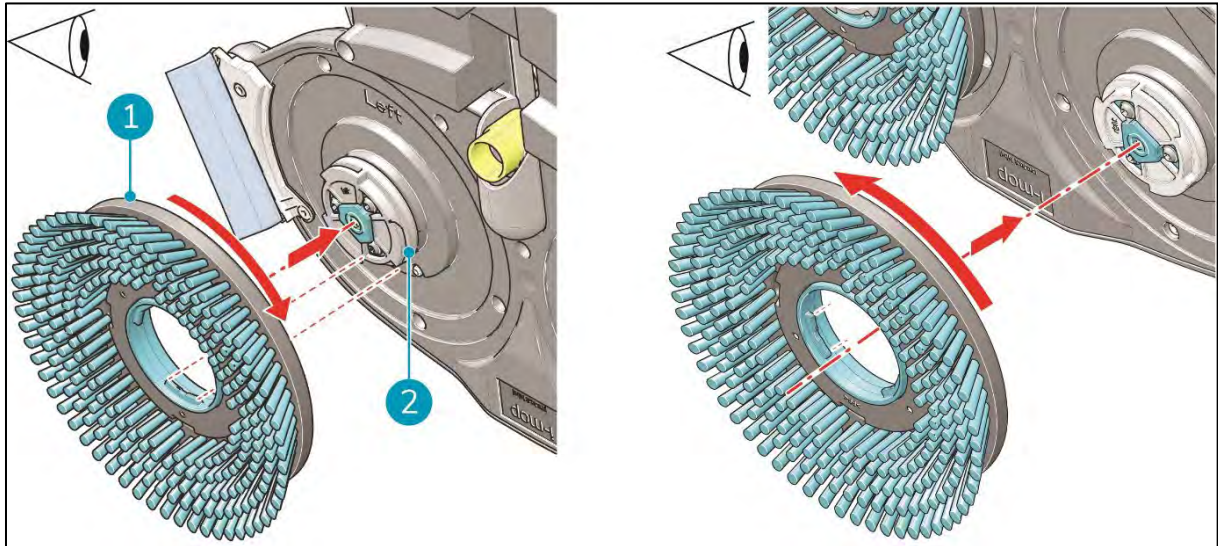

Figure 9
3. Align the left brush (Figure 9, pos. 1) with the left motor disk (Figure 9, pos. 2). Align the latches and cut-outs in the brush and motor disk.